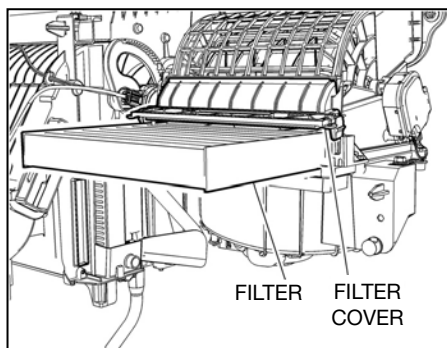

Fig. 25
3. Remove cabin air filter cover (see Fig. 25).